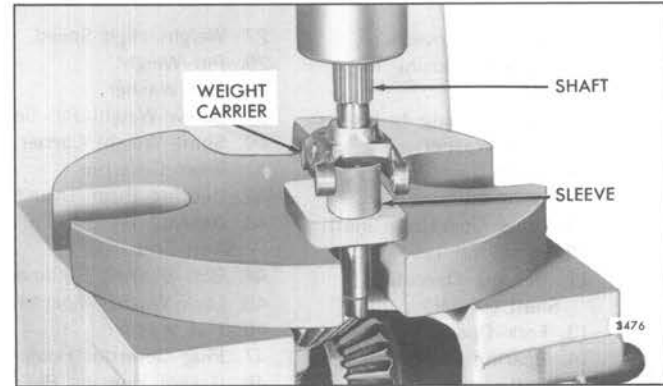

Fig. 21 – Installing Governor Weight Shaft in Weight Carrier
- a. Support the weight carrier (rear face up) on a sleeve and a steel support (with 1" hole) over an opening in the bed of an arbor press (Fig. 21).